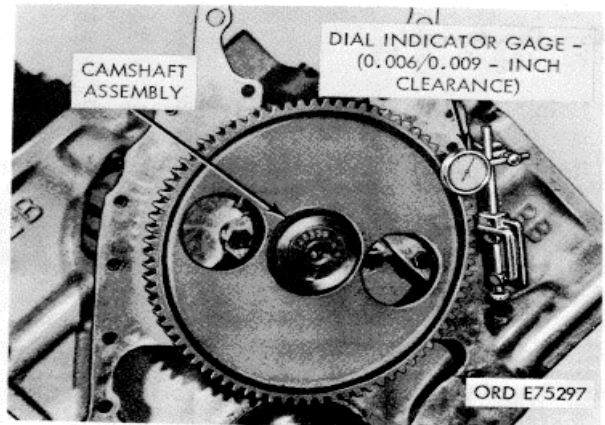
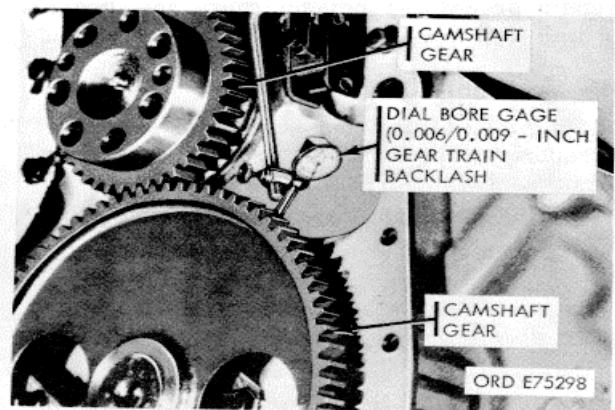

Figure 3-18. Camshaft end play check.
Figure 3-19. Crankshaft gear backlash check.
(1) Attach dial indicator to block, place indicator arm on gear teeth as shown in figure 3-19.
(2) Rotate gear by hand to advance position and set indicator at zero. Back gear to retard position and note indicator reading. Check indicator reading against specified limits in repair and rebuild standards (para. 3-181). If reading is outside limits specified pump gear train must be replaced.
- (1) With a suitable holder attach a dial indicator to the block, as shown in figure 3-18, with indicator arm resting on face of gear teeth.
- (2) Push and pull on shaft several times.
- (3) Push shaft in until shaft bottoms and set indicator to zero.
- (4) Pull out oil shaft and note reading on indicator.
- (5) Check reading against specified limits in repair and rebuild standards (para. 3-180). If end clearance is not within limits specified remove camshaft and replace thrust plate.
- f. Attach dial indicator as shown in figure 3-19 and measure gear backlash against limits specified in repair and rebuild standards (para. 3-180). If backlash is not within specified limits replace camshaft gear.